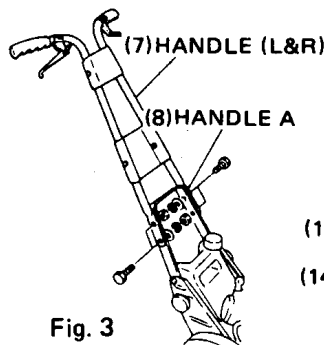

Fig. 3
- c. Install the assembled upper handle with 4 pcs. 6 x 18 bolts, 4 pcs. 6mm washers and 4 pcs. 6mm nuts. (Fig. 3)